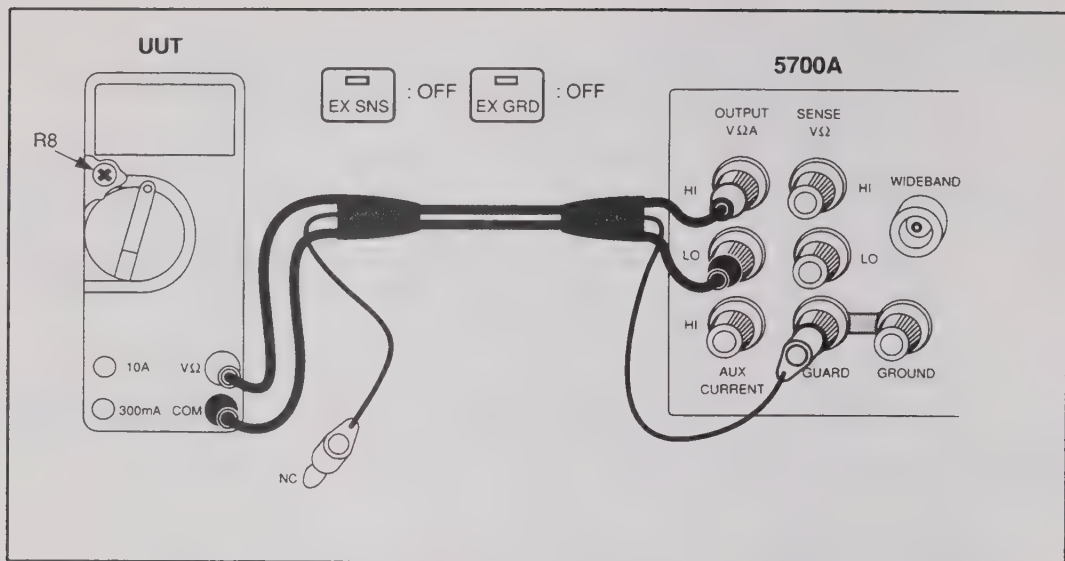

Figure 4-12. Cable Connections for Calibrating a Fluke 70 Series DMM
3. Connect a set of test leads to the DMM as shown in Figure 4-12.